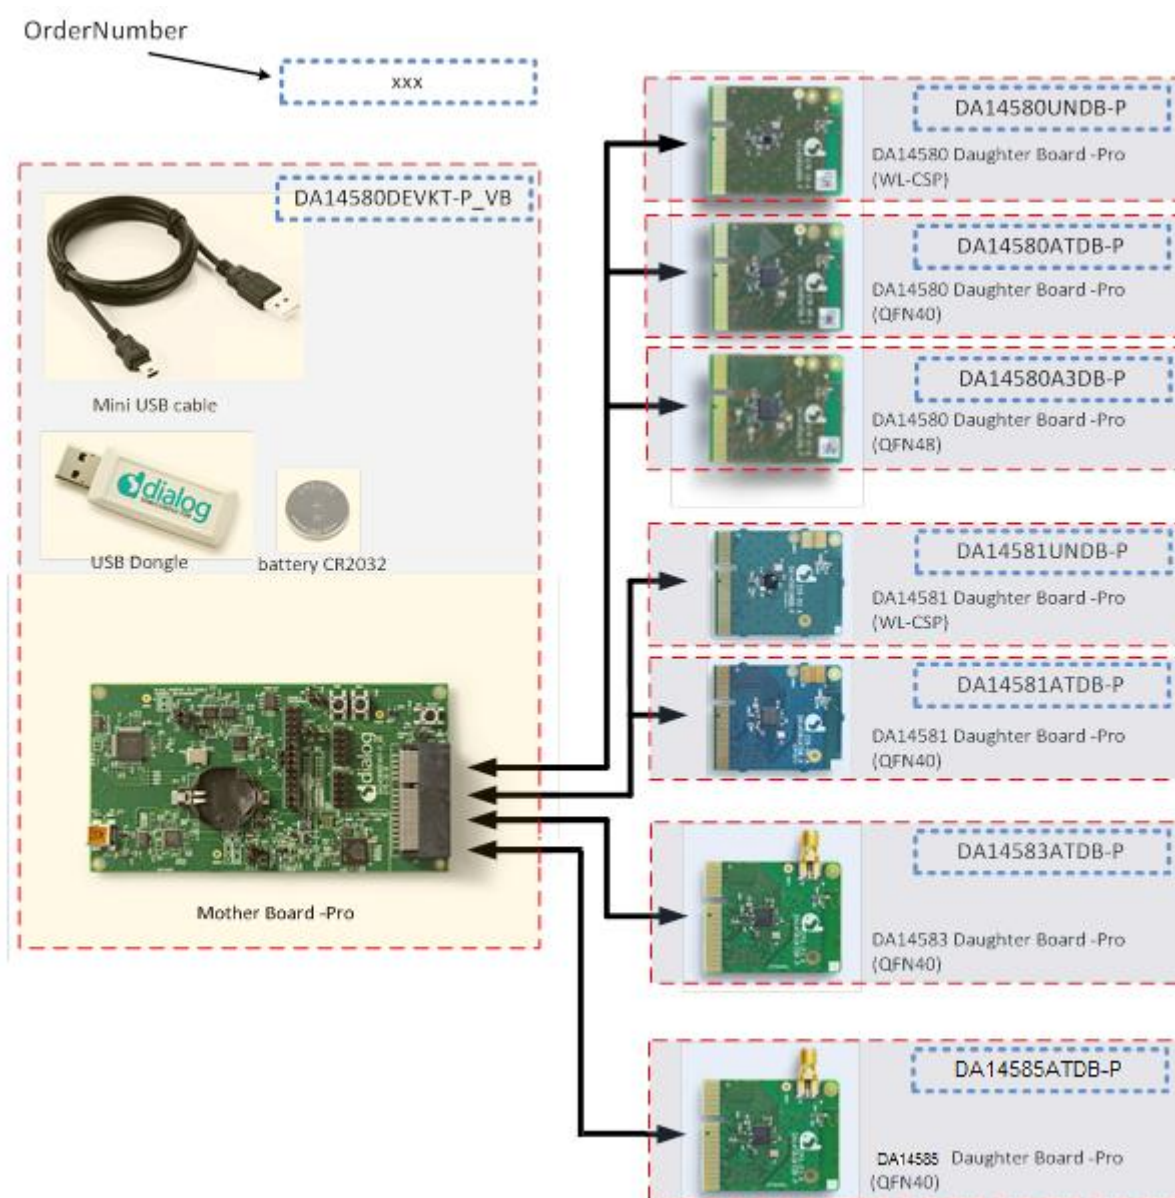

Figure 1: Overview of all DEVKT -Pro parts
In Figure 1 the kit components are shown and contains an overview the parts.
**Remark** on Figure 1.: ordernumbers are to be added in dashedlined blocks
Use the numbers in the dashed line blocks of Figure 1 or the Bold numbers in Table 1.